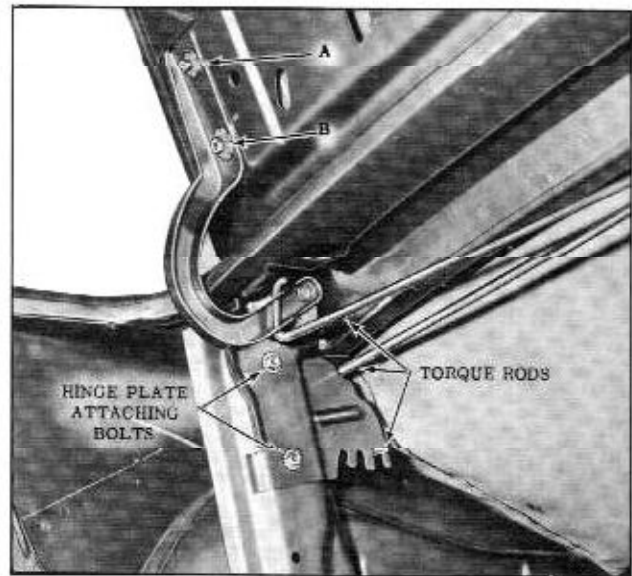

Fig. 15-34 Rear Compartment Lid Hinge and Torque Rods ("67" Styles)
1. To adjust compartment lid forward or rearward, or from side to side in body opening, loosen hinge strap attaching bolts "A" and "B" (Fig. 15-34) on both sides of lid; adjust lid as desired, then tighten bolts.
2. Scribe location of hinge strap on lid inner panel and remove bolts "A" and "B" (Fig. 15-34) securing hinge strap to lid.